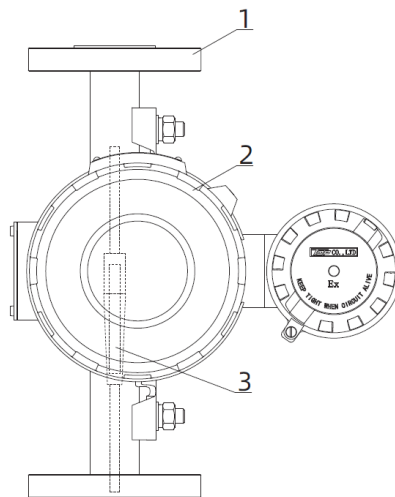

Figure 2-1 Main Product Structure
2.1 Main product structure - Figure 2-1